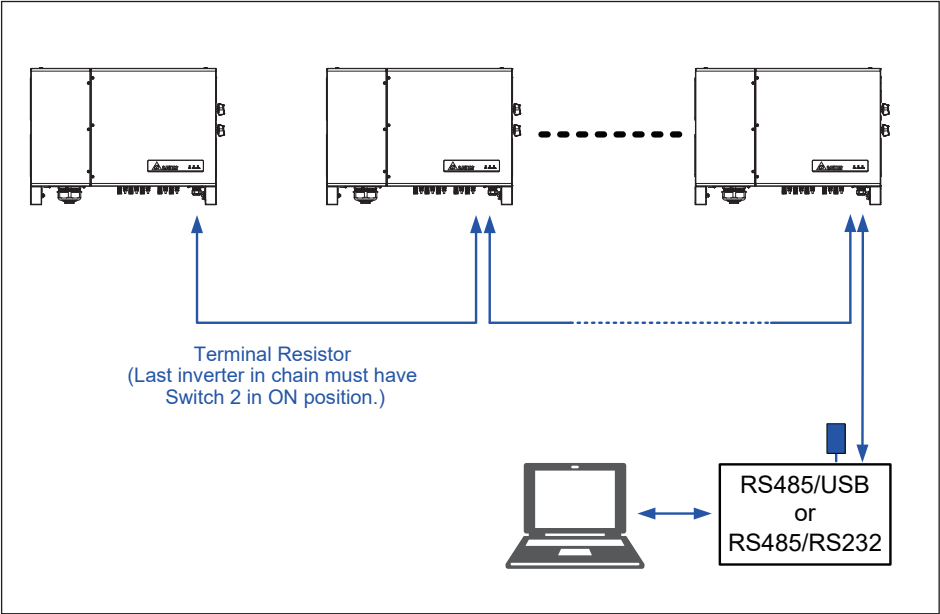

Figure 3-25: Multiinverter connection illustration
- When several inverters are cascaded (i.e., "daisy-chained") only the last inverter in the chain must have its bus termination resistor switched ON. (**Figure 3-25**)